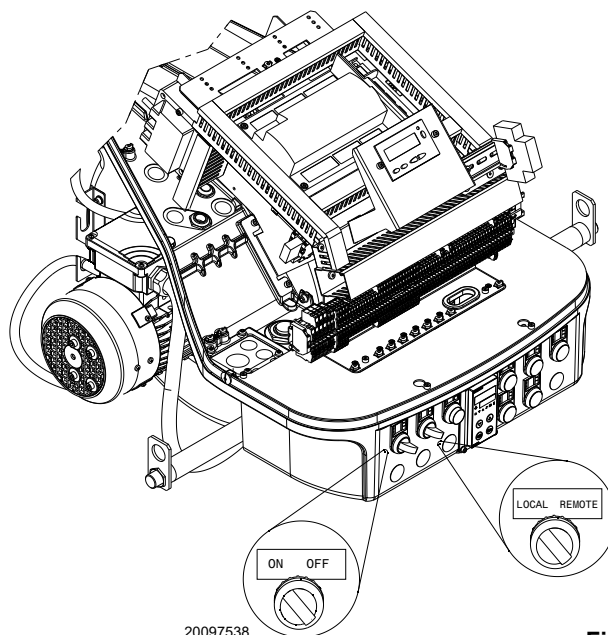

Fig. 33
Please refer to the specific manual for this operation. Turn the switch of Fig. 33 to position “ON” and turn the switch of Fig. 33 to position “LOCAL”.
Make sure that the lamps or testers connected to the solenoids, or indicator lights on the solenoids themselves, show that no voltage is present. If voltage is present, stop the burner **immediately** and check the electrical wiring. When the burner starts, check the direction of the motor rotation, as indicated in Fig. 33.
- place the switch of Fig. 33 in position “OFF” and wait for the control box to carry out the switch-off phase;